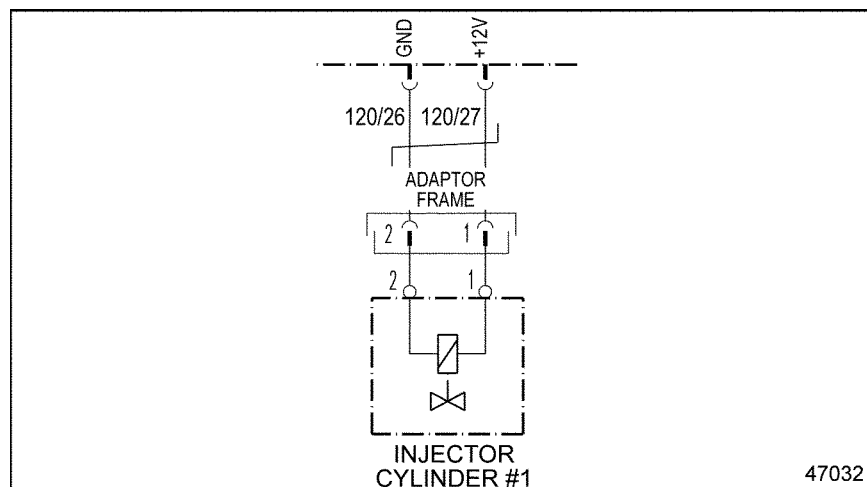

Figure 24-1 **Injector #1**
4. Measure the voltage between pins 1 and 2 of injector #1. See Figure 24-1.